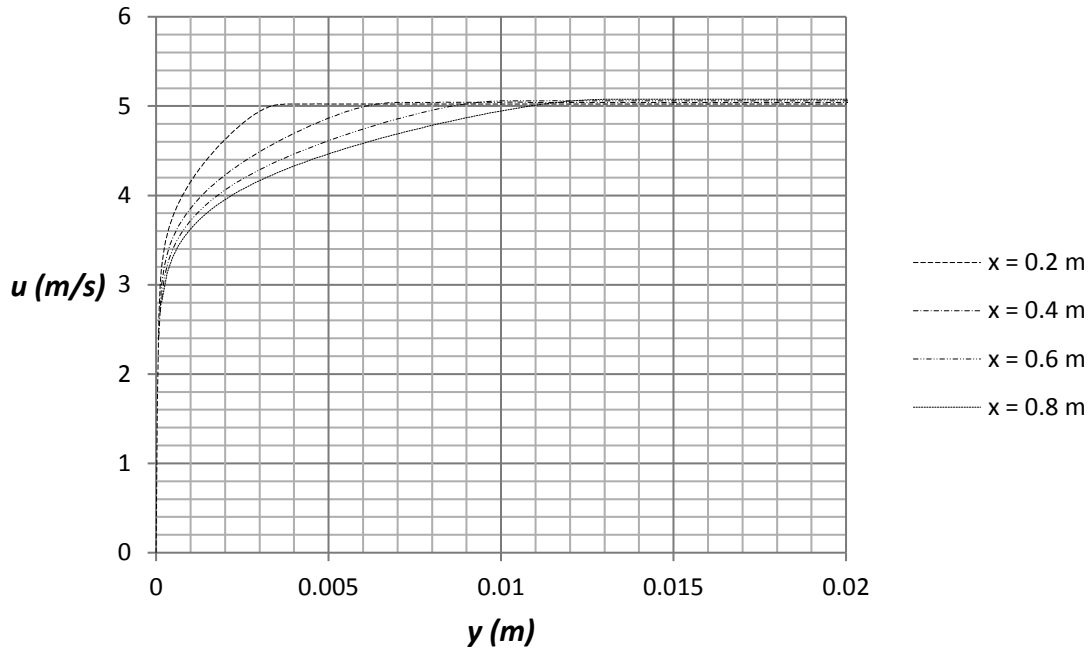

Figure 2.30a) Comparison of turbulent boundary layers at  $Re_x = 10^6 - 4.04 \cdot 10^6$
29. Place the file “**graph 2.30a**” on the desktop. Repeat step 24 and choose the sketch  $x = 0.2, 0.4, 0.6, 0.8$  m and check the box for **Velocity (X)**. Rename the xy-plot to **Turbulent Velocity Boundary Layer**. An Excel file will open with a graph of the streamwise velocity component versus the wall normal coordinate, see figure 2.30a). We see that the boundary layer thickness is much higher than the corresponding laminar flow case. This is related to higher Reynolds number at the same streamwise positions as in the laminar case. The higher Reynolds numbers are due to the selection of water as the fluid instead of air that has a much higher value of kinematic viscosity than water.
As an example, the turbulent boundary layer thickness from figure 2.30a) is 3.16 mm at  $x = 0.2$  m which can be compared with a value of 4.45 mm from equation (2.4), see table 2.2.
- 2.6 Determine the displacement thickness, momentum thickness and shape factor for the turbulent boundary layers in figure 2.30a) and determine the percent differences as compared with empirical data.